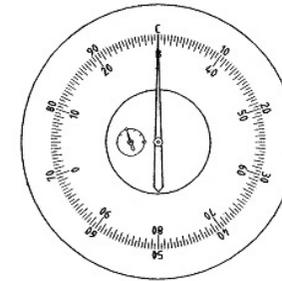

Figure 13
2.3 Turn the outer shell of indication dial gauge until the longer pointer aligns with the long division line between Letter C and Letter B (see Fig 13, either anticlockwise or clockwise turn is all right).